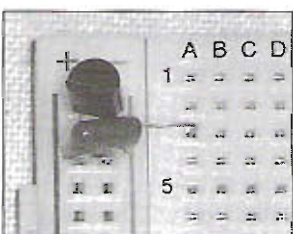

Figure 3.20 – .01µF (104) Capacitor Installed Adjacent to the Regulator.
Trim the leads of the .01µF (104) capacitor to approximately ¾ inch. Insert the capacitor across the +5-V and ground bus pins adjacent to the regulator as shown in **Figure 3-20**.